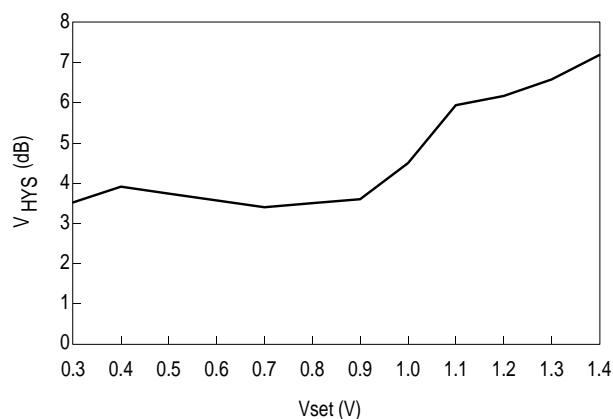

Figure 5. LOS Hysteresis ( $T_A = 25^\circ C$ )
2. This device has an anomaly in  $V_{HYS}$  when  $0.65 < V_{SET} < 0.75V$ . Operation in this region is not recommended. (See Figure 5)